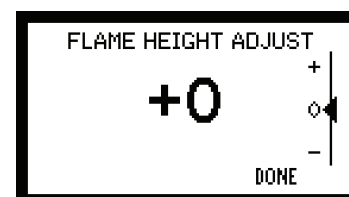

Figure 25.3
- Adjust the flame height using the “FLAME HEIGHT ADJUST” screen on the wall control. **Figure 25.3.**